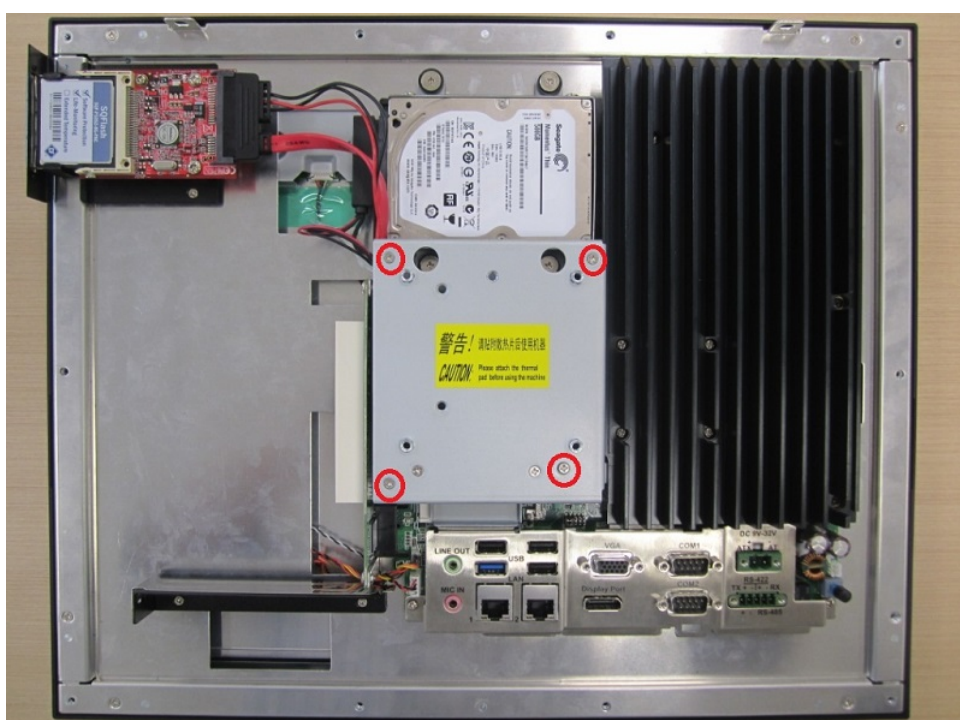

Figure 2.48
5. Follow Step 7 of Subsection A to affix the VESA mount plate (see Fig. 2.48) and replace the rear cover to complete the installation.